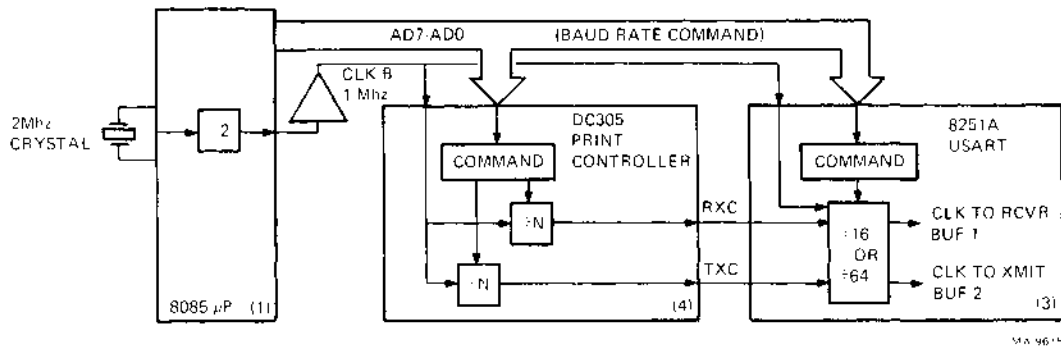

Figure 5-6 Creation of Baud Rate Clocks
5.4.2.3 Baud Rate Clocks – The DECwriter IV series terminals may be programmed or set-up to perform serial I/O communication at many different transmission rates, ranging from 50 to 9600 baud (bits per second) depending upon the terminal type. Figure 5-6 shows the hardware (logic) that creates the baud rate clocks used to shift the serial data stream in or out of the USART.